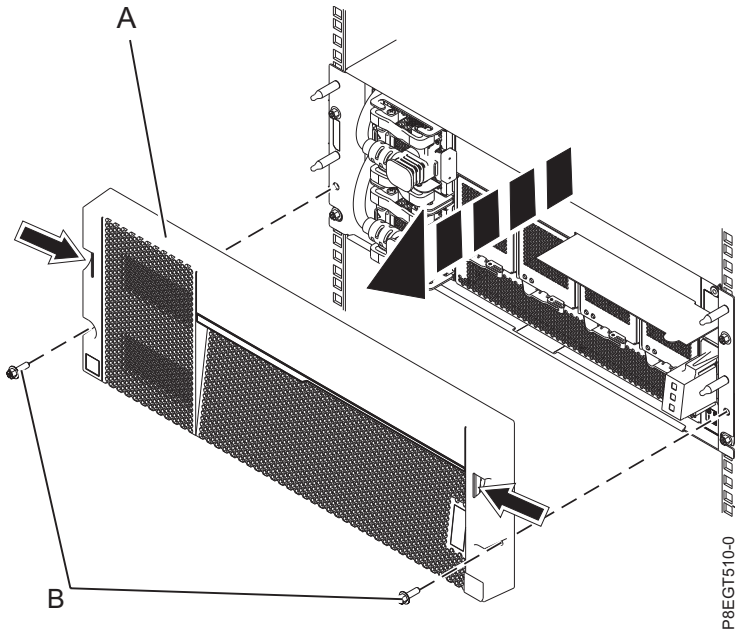

Figure 1. Removing the front cover
4. Remove the front cover by removing the screws **(B)** and then pulling the front cover **(A)** away from the EMX0 PCIe3 expansion drawer by using your fingers. See Figure 1 on page 2.